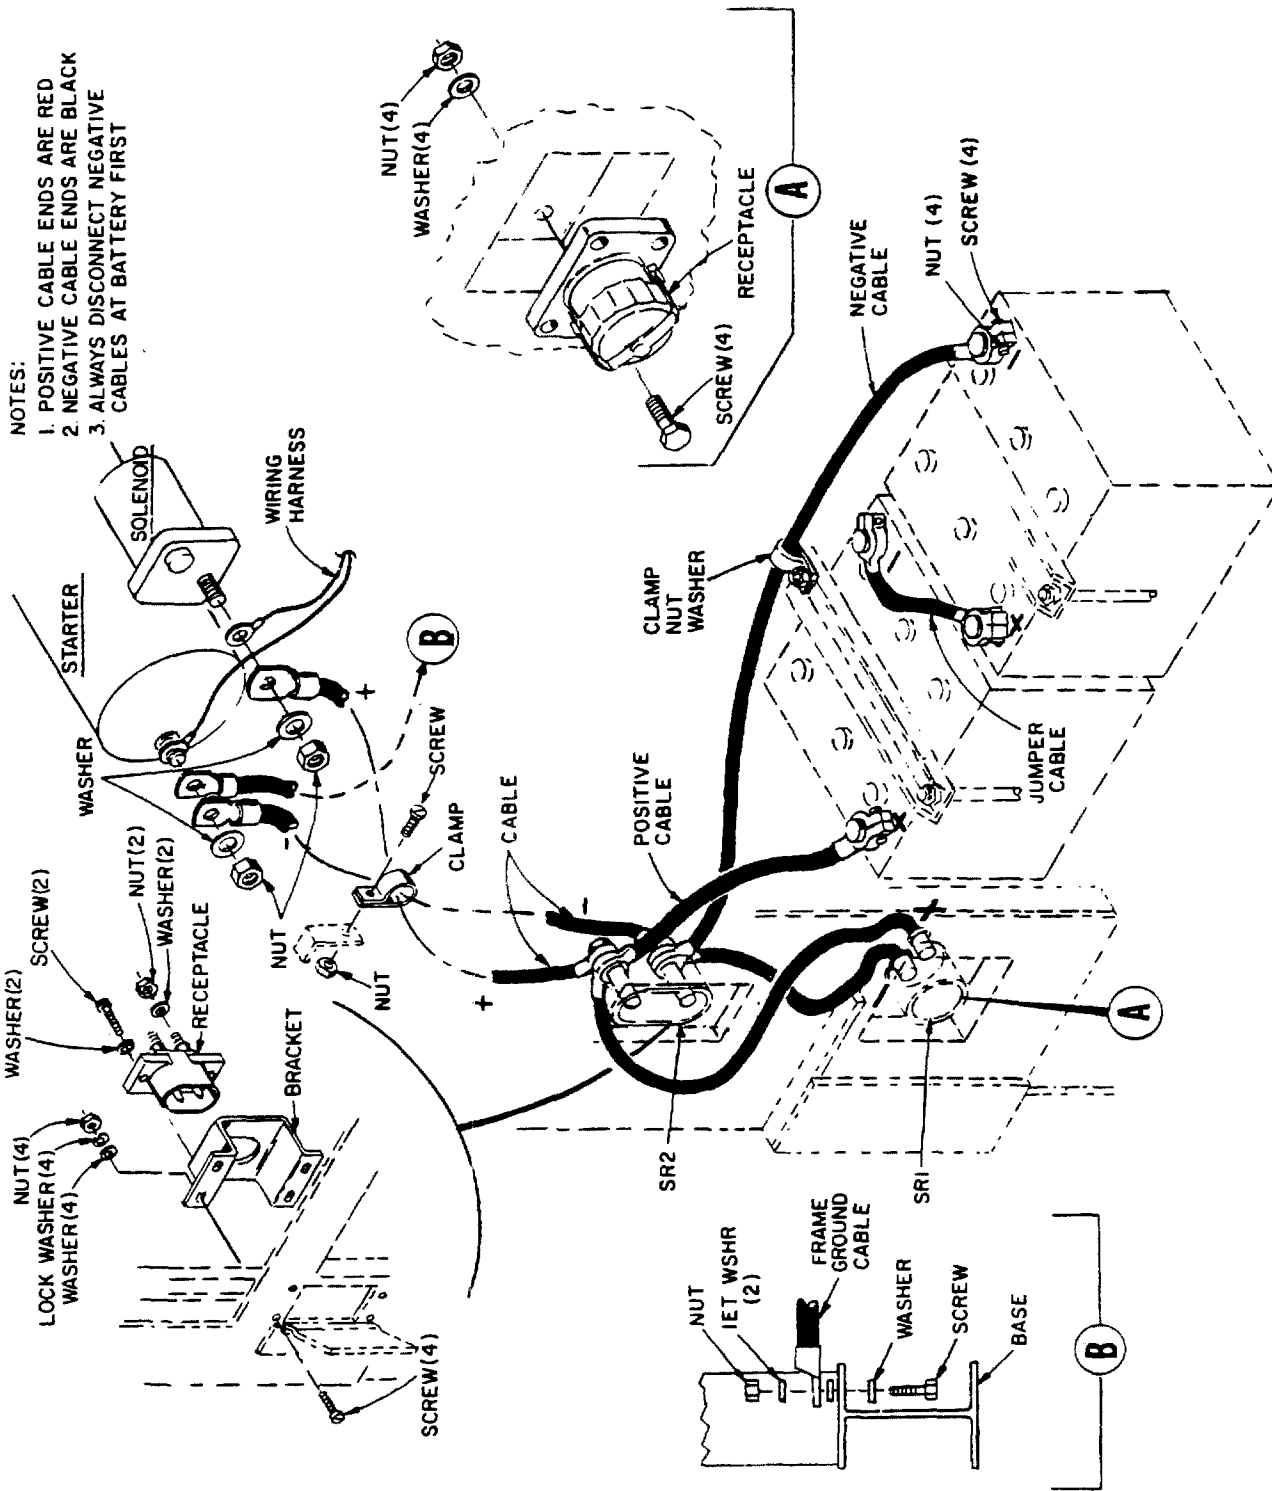

Figure 4-14. Battery Cables and Slave Receptacles, Removal and Installation
(b) Sequence of installation should be as follows: rollout tray, stop angle, batteries, retainers, and battery cables. When installing batteries, place batteries in rollout tray so that positive posts are toward front of generator set. Connect negative battery cable to battery last. Refer to figure 4-14 and check battery cables for proper connection.
(1) Removal. Remove battery cables and slave receptacles as illustrated in figure 4-14, removing negative cables first.
(2) Cleaning and Inspection.
(3) Installation. Install battery cables and slave receptacles as illustrated in figure 4-14, observing the following: